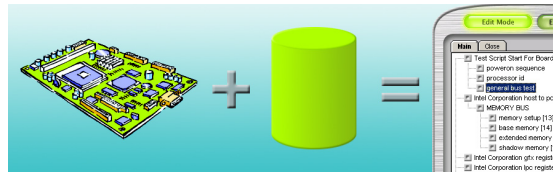

Fig. 1 – The ATG generates a test script for a known-good board using the device library.
**The ATG must always be run on a booted, fault-free board.** Where possible, the ATG used PCI IDs to identify the types of devices that are on the board and then assembles an appropriate set of tests from the built-in device library (Fig. 1).